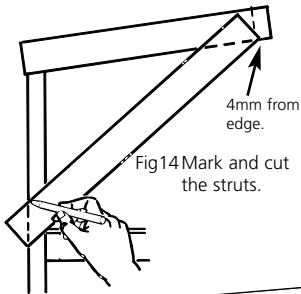

Fig 14 Mark and cut the struts.
- With the help of an assistant, clamp one of the roof supports at the top of the rear wall of the workbench. Tilt the support by approximately  $10^{\circ}$  to  $15^{\circ}$  so that the roof will slope towards the rear of the structure (see fig 14).
- For the side struts, cut two pieces of 90x45mm treated pine to 1300mm length. Mark and cut one piece to suit by holding against the side frame as shown in fig 14. Use this as a template to cut the second strut. Fix the roof support structure in place as shown (see fig 15).